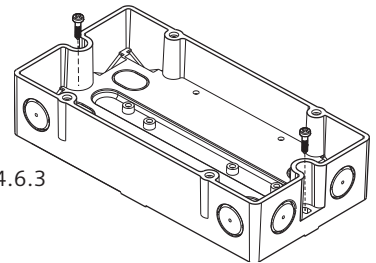

Fig. 4.6.3
3. Mount the housing on a flat surface with two M4x15 screws (Fig. 4.6.3). Distance between holes: $182.0 \pm 1.0\text{mm}$.